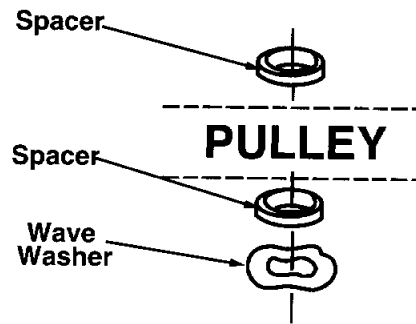

Figure 16.
**NOTE.** On self-propelled models, a wave washer and a spacer may come off the crankshaft when the blade is removed. When reassembling, place the spacer on the crankshaft first, then the wave washer. See Figure 16.